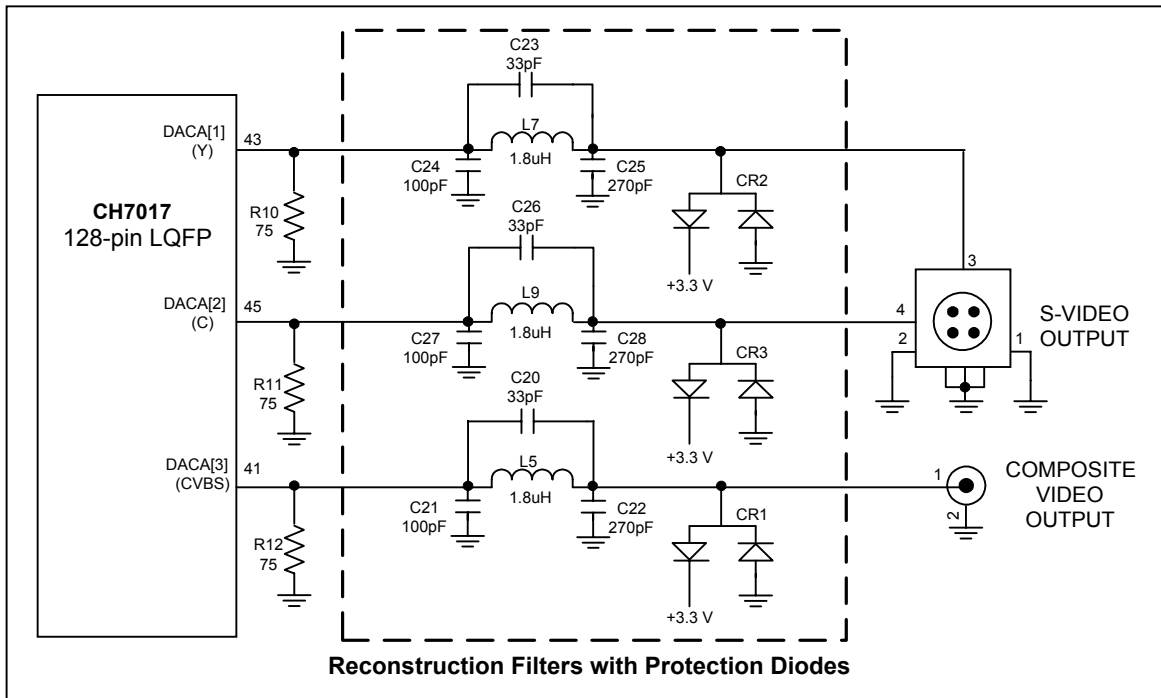
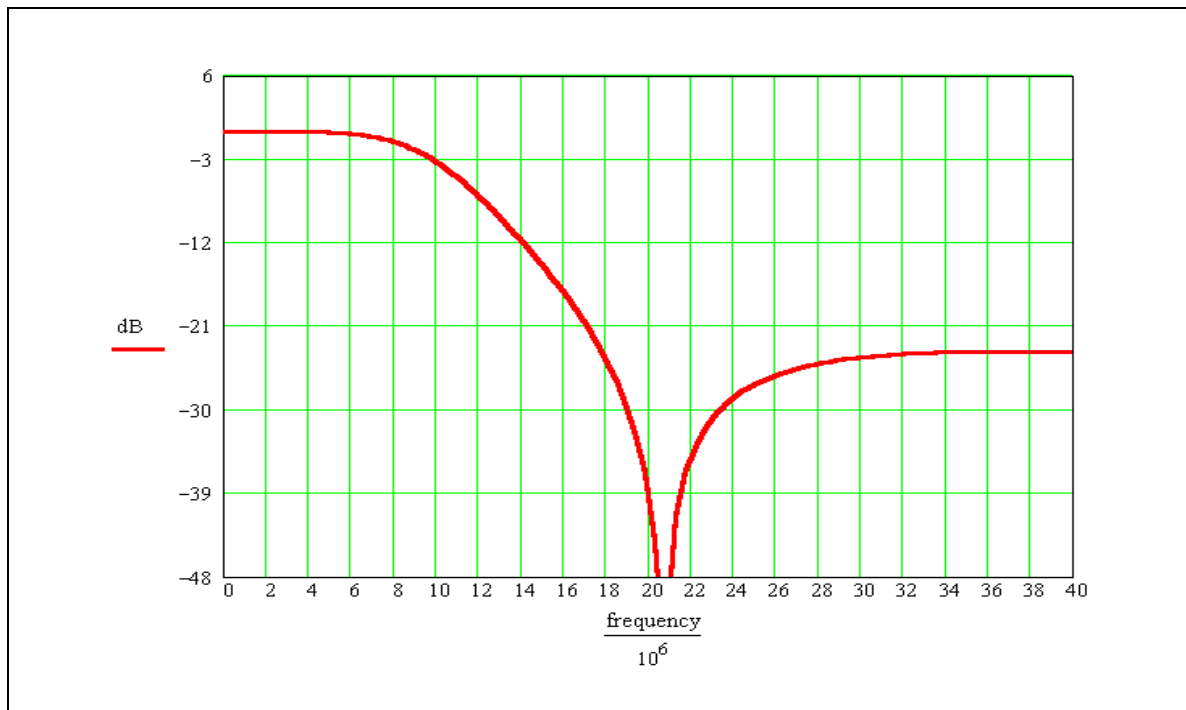

Figure 9: The Typical Connection For the S-Video and Composite Outputs
Figure 10: S-video and Composite Output Amplitude Response of the 3rd Order Reconstruction Filter as shown in Figure 9.
The recommended output reconstruction filter network is a third order low pass filter. The recommended circuit elements for a typical S-Video and composite outputs are shown in **Figure 9**, and its corresponding frequency response is shown in **Figures 10 and 11**.
2.6	Table 2 corrected. Figure 10, 11, and 12 updated.